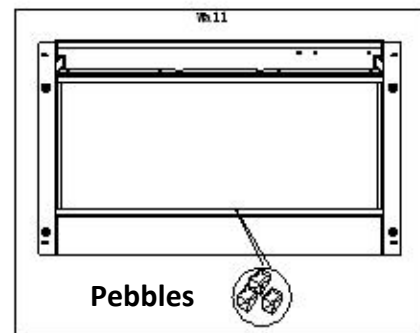

Fig 3.
STEP 6C. Place the decorative pebbles (D) on the fireplace ledge in any desired position. **Fig 3.**